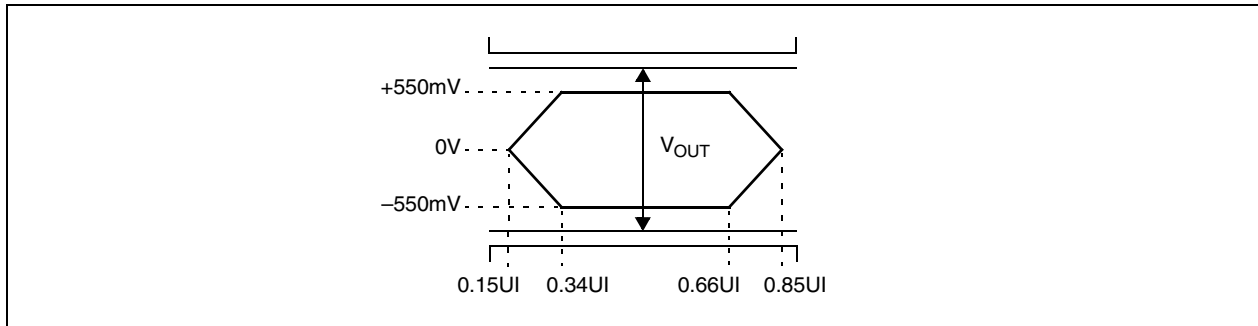

Figure 17. Amplitude Eye Diagram
| $V_{OUT75}$ | PECL output swing (4) :$[V_{OH}(Ox+) - V_{OL}(Ox+)] + [V_{OH}(Ox-) - V_{OL}(Ox-)]$ | 1050               | 1325 | 2200               | mVp-p | Refer to Figure 17.                                    |
| $V_{OUT50}$ | PECL output swing (4) :$[V_{OH}(Ox+) - V_{OL}(Ox+)] + [V_{OH}(Ox-) - V_{OL}(Ox-)]$ | 950                | 1200 | 2200               | mVp-p | Refer to Figure 17.                                    |